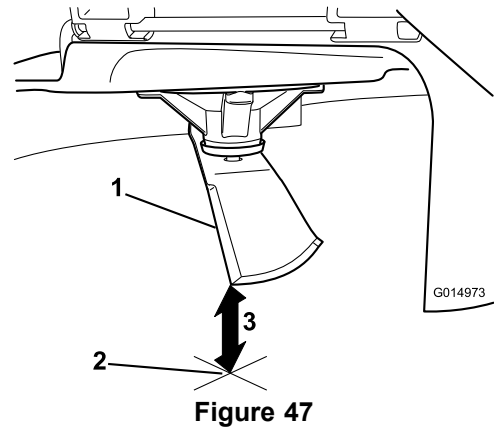

**Figure 46**
3. Measured distance between blade and the surface (A)
4. Rotate the same blade 180 degrees so that the opposing cutting edge is now in the same position (Figure 46).